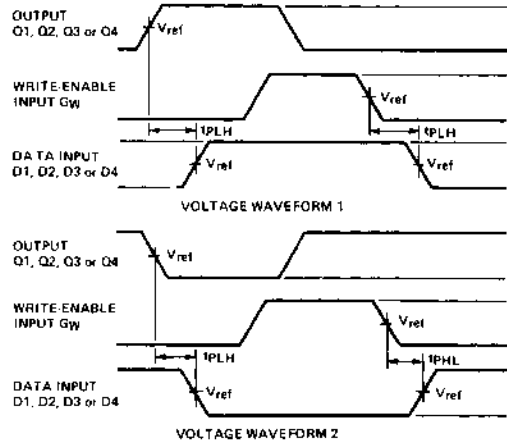

FIGURE 2
2. Latch time is the time allowed for the internal output of the latch to assume the state of new data. See Figure 2. This is important only when attempting to read from a location immediately after that location has received new data.
- C. In Figure 2, each select address is tested. Prior to the start of each of the above tests, both write and read address inputs are stabilized with $W_A = R_A$ and $W_B = R_B$. During the test G_R is low.